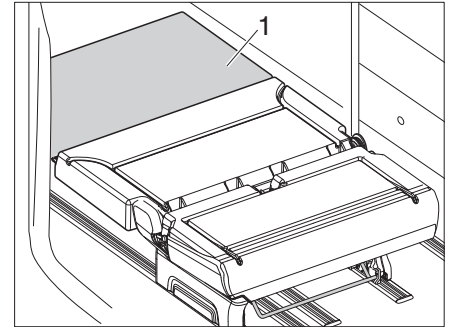

Fig. 16 Bench seat in sleeping position
- Move the bench seat completely too the back until it is flush with the bed extension (Fig. 16,1).